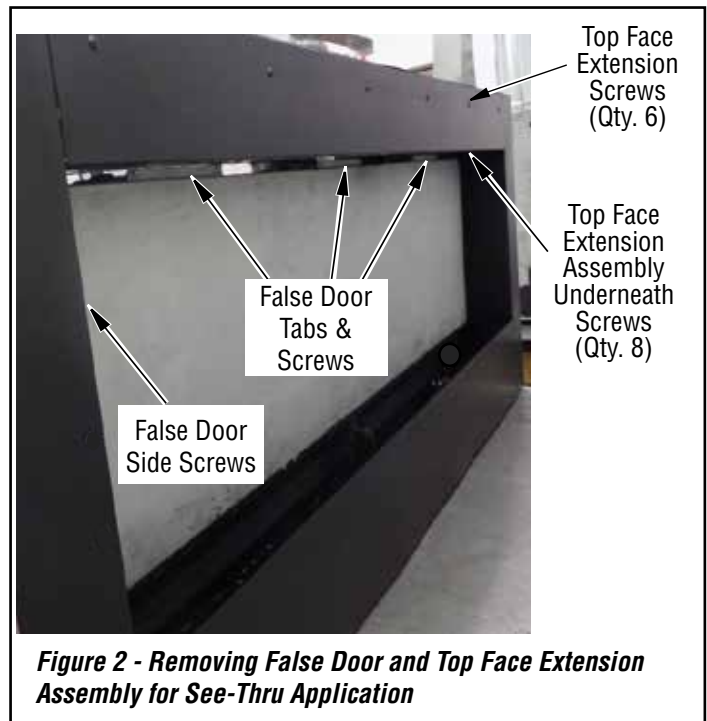

Figure 2 - Removing False Door and Top Face Extension Assembly for See-Thru Application
3. Detach top face extension assembly from top face by removing 8 screws underneath and 6 screws on the front (**Figure 2**).
7. Unscrew mount false door as shown in **Figure 2**. Discard false door.